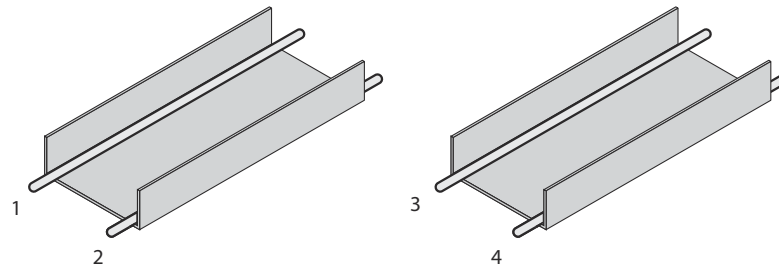
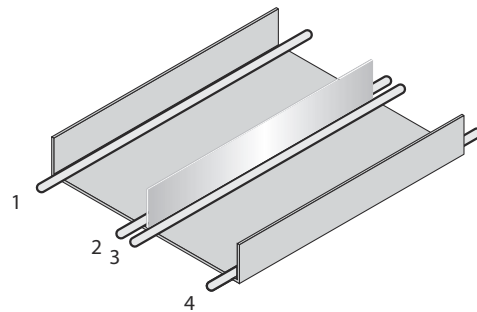

Figure 6: Ideal laying - Place cables in different cable channels
Figure 7: Alternative laying - Separate cables with metallic separators
- ▶ Route the cables in groups 1, 2 and 3, 4 in different cable channels or use metallic separators (see figure 6 and see figure 7). This applies particularly if cables of devices with a high level of radiated emission, such as frequency converters, are laid parallel to device cables.